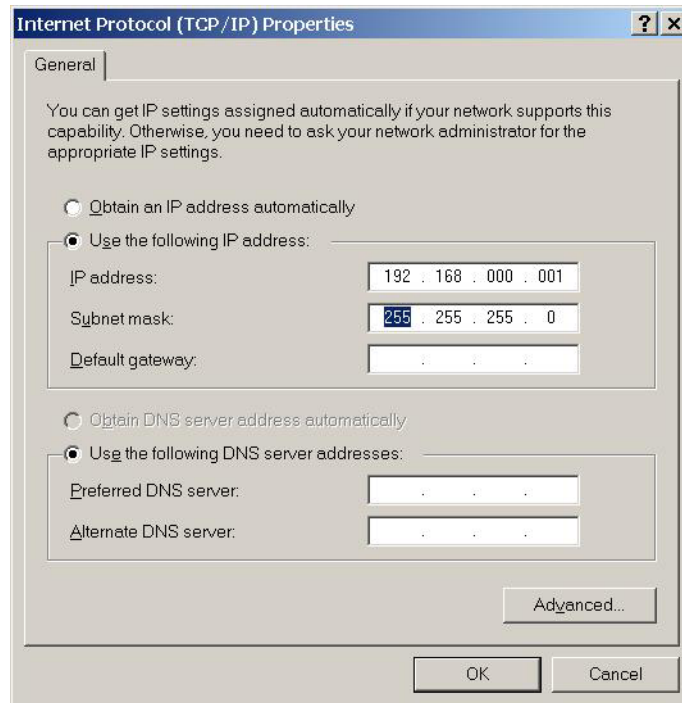

Figure 7 TCP/IP Address
- Enter the IP address and subnet mask. See Figure 7 TCP/IP Address.